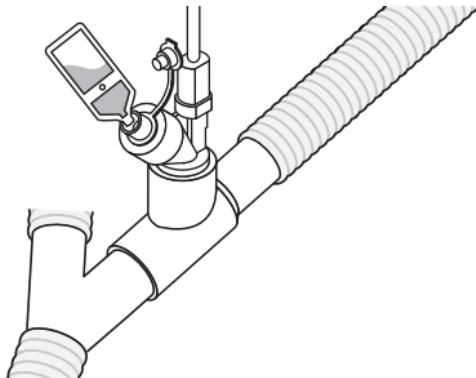

Figure 15. Filling the nebulizer with a pre-filled ampoule
2. Use a pre-filled ampoule or syringe to add medication into the filler port of the nebulizer (Figure 15).